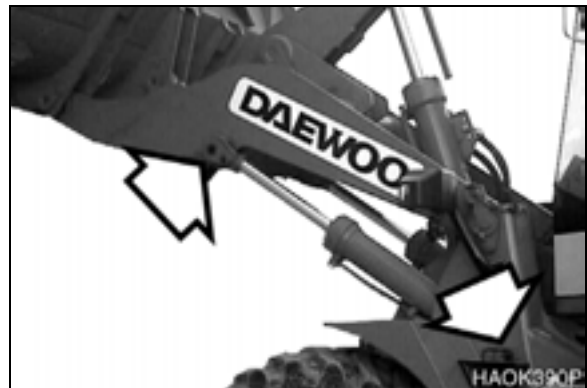

Figure 44
- D: Lift cylinder heads (left, right), 2 locations. Lift cylinder rod ends, 2 locations. (Figure 44)